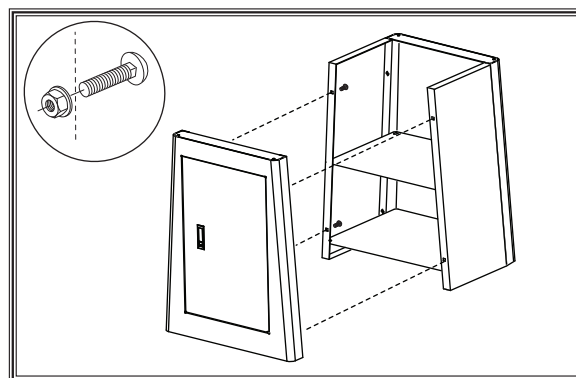

Figure 7. Door w/panel installation.
3. Fasten the panel and door assembly to the left and right panels, as shown in **Figure 7**, using (4) $\frac{5}{16}$ "-18 x $\frac{3}{4}$ " carriage bolts and (4) $\frac{5}{16}$ "-18 flange nuts.